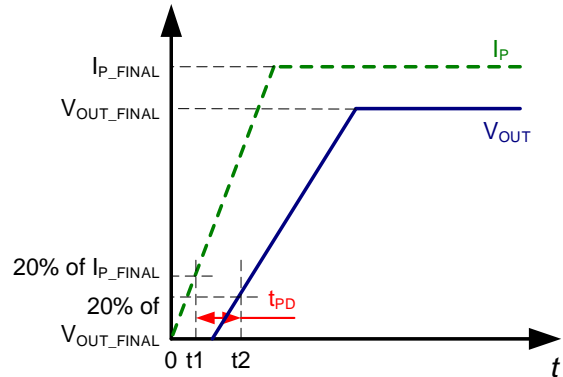

Figure 6: Propagation Delay ( $t_{PD}$ )
2.  $t_2$ :  $V_{OUT}$  reaches 20% of  $V_{OUT\_FINAL}$ , as it corresponds to the applied  $I_P$  (see Figure 6).